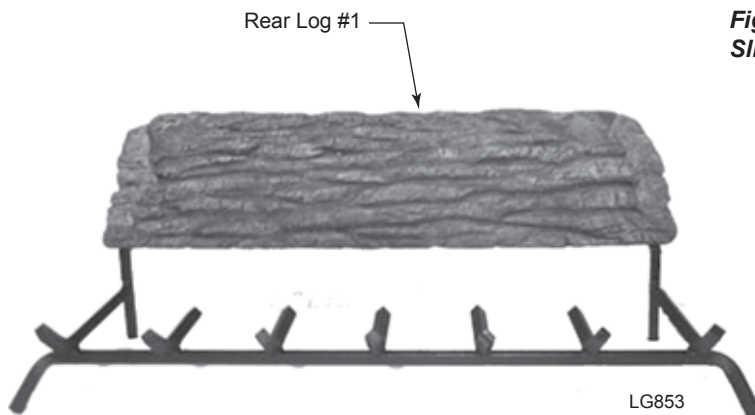

Figure 35 -
2. Center rear log #1 on grate bars and flush with rear of the grate. *Figure 35*